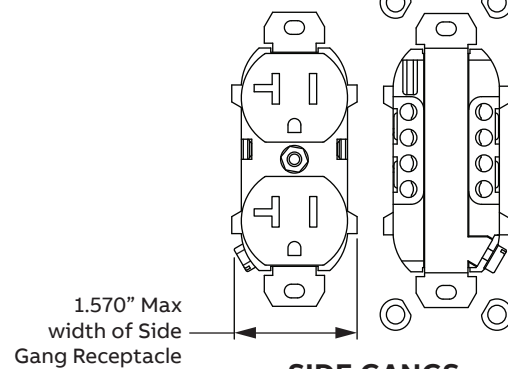

FIGURE 9
- Use only **20A** Duplex or Rectangular Receptacles in Side Gangs. GFCI receptacles **WILL NOT FIT** in Side Gangs. Select receptacles with a 1.570" (39.8 mm) Max width or less to fit Side Gangs (see Figures 9 and 10).
- The side ears on the Devices must be removed for proper installation. (see Figure 9 and 11)
- 5.2.1 Select electrical devices to be installed and remove all Side Mounting Ears from Devices (See Figures 9, 10, and 11).